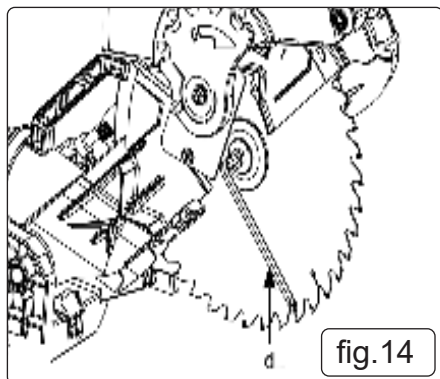
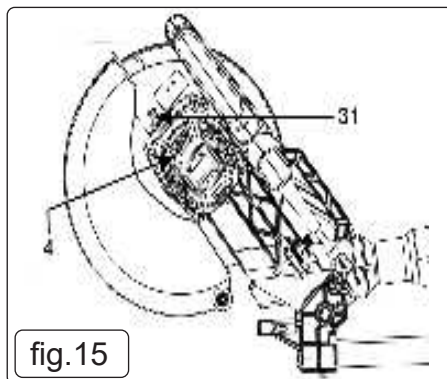

fig.14
fig.15
- 7.4.3. Press the spindle lock button (fig 15 - 31) and rotate the blade until it locks, then loosen and remove the blade flange bolt and outer flange with the hex head key (fig 14 - d), turning clockwise. **NOTE:** This is a left handed thread.